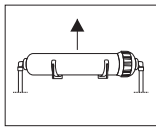

Fig. 2
- 2) Remove filter cartridge out of mounting clips. **WARNING! Use caution during removing of the filter cartridge to prevent any damage to plastic tubing (Fig. 2).**